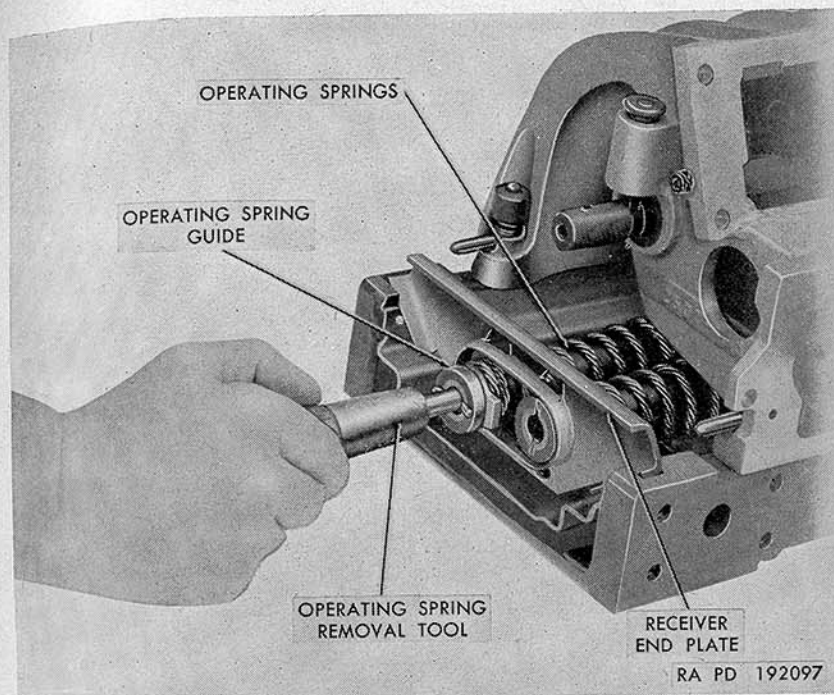

Figure 57. Removal of operating springs from gun.
b. Push guide forward, compressing operating springs (fig. 57).
d. Insert removing or replacing operating spring tool 7188576 (figs. 28 and 57) into opening in rear of guides, until the pin on the tool engages the notch of the guide (fig. 57).